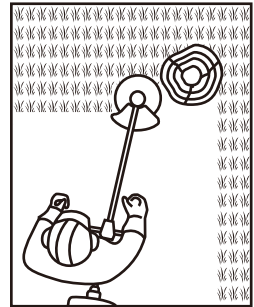

Fig. 26
3. Pay special attention when performing the work close to trees and bushes. The cutting head could damage sensitive bark, and damage fence posts (Fig. 26).